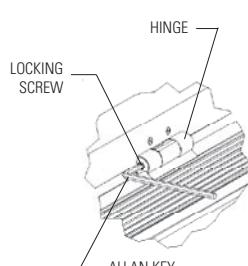

FIG.7
2. Lock in place inserting locking screws through hinge (Fig.7)